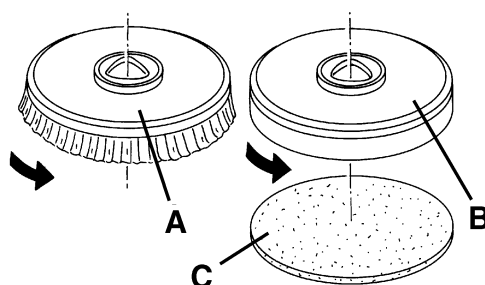

Figure 2
1. According to the kind of cleaning to be carried out, the machine can be equipped either with brushes (A, Fig. 2) or pad-holders (B) with pads (C) together with the appropriate deck.
2. Turn the ignition key (80) to "0" position.